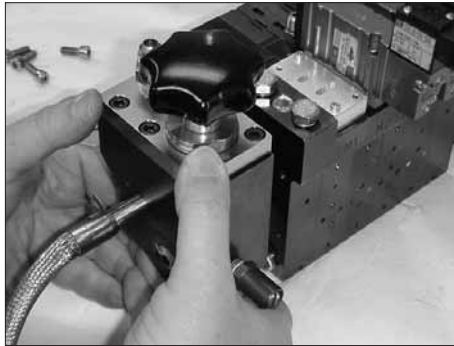

Figure 7-98 Using the heater to position the filter block
3. See Figure 7-98. Using the heater as an alignment tool, carefully position the filter block on the applicator.